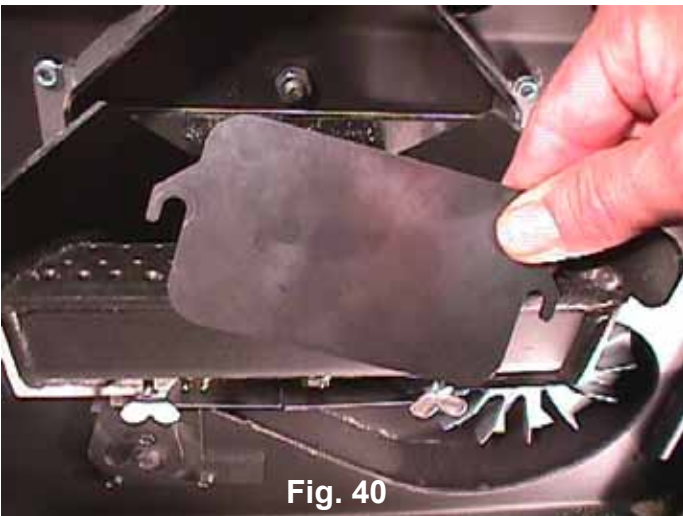

Fig. 40
Approximately once per month, clean out the air-flow portion of the burn pot: 1. Loosen the (2) wing thumb screws on the lower front angle of the burn pot. (Fig. 40) 2. Lift off the clean-out cover (Fig.40) to open the bottom clean-out chamber. (Fig.41)